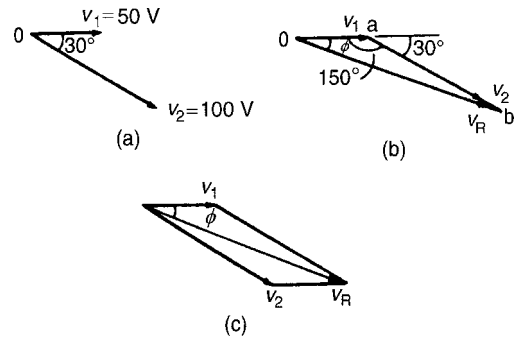

Figure 14.11
Phasors are usually drawn at the instant when time $t = 0$. Thus v_1 is drawn horizontally 50 units long and v_2 is drawn 100 units long lagging v_1 by $\pi/6$ rads, i.e. 30° . This is shown in Fig. 14.11(a) where 0 is the point of rotation of the phasors.
- Draw v_1 horizontal 50 units long, i.e. oa of Fig. 14.11(b)
- Join v_2 to the end of v_1 at the appropriate angle, i.e. ab of Fig. 14.11(b)
Alternatively, when two phasors are being added the resultant is always the diagonal of the parallelogram, as shown in Fig. 14.11(c).
A more accurate solution is obtained by calculation, using the cosine and sine rules. Using the cosine rule on triangle $0ab$ of Fig. 14.11(b) gives: